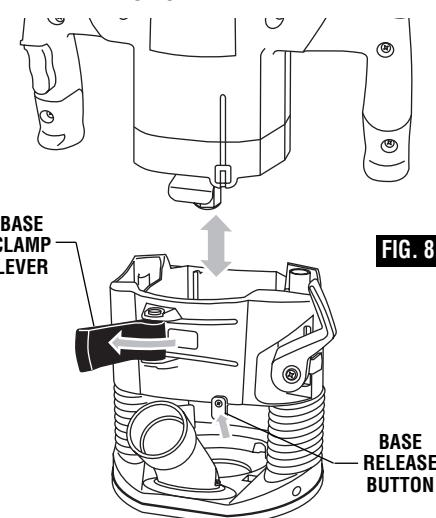

FIG. 8
1. Hold router in vertical position, open base clamp lever, depress base release button, and pull motor upwards from base (Fig. 8).
3. Slide motor into base until the base release stop button on motor engages into the slot in the base (Fig. 8).